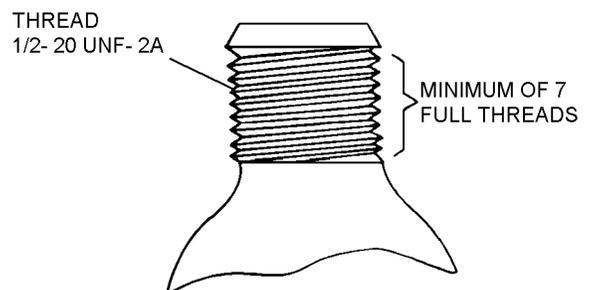

Figure 26-5. Cylinder Thread Count
4. To assure a firm cylinder seat, conduct a cylinder thread count. Threaded portion of cylinder neck shall contain a minimum of seven full threads to assure a firm cylinder seat within valve body. Any cylinder found with less than seven full threads shall be discarded. See figure 26-5.